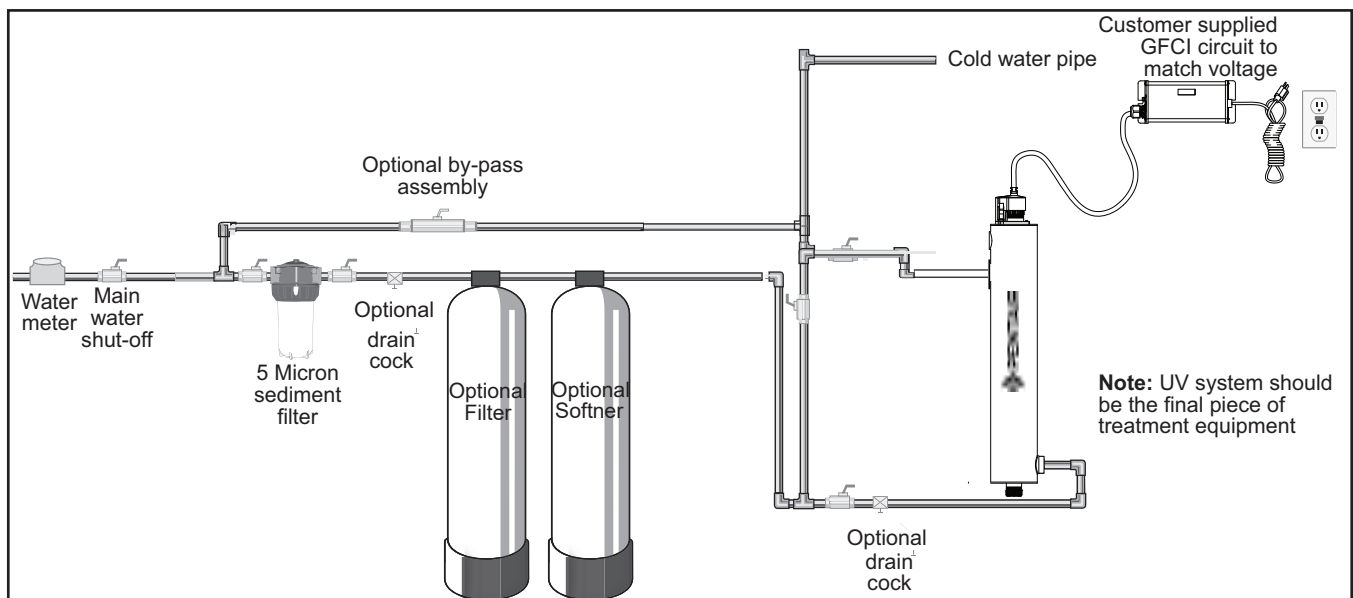

Figure 2 Disinfection System
1. (Figure 2) shows the installation of a typical disinfection system and the related components that may be used for the installation. The use of a bypass assembly is recommended in case the system requires offline maintenance. In this case, note that the system requires a supplementary disinfection for the distribution system if any water is used during by-pass condition. In addition, during by-pass, the water will NOT be disinfected and a “DO NOT CONSUME THE WATER” tag should be physically installed on the by-pass assembly until such time as the system is sanitized and returned to service. For more information, refer to Section 3.2. If the water is to be consumed while the system is off-line, the water must be boiled for twenty minutes prior to consumption.